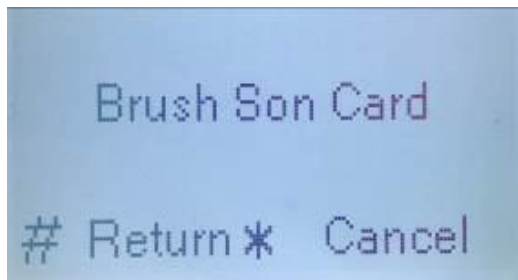

Figure 4-13
- f) Put the card on the swipe zone. See Figure 4-13.